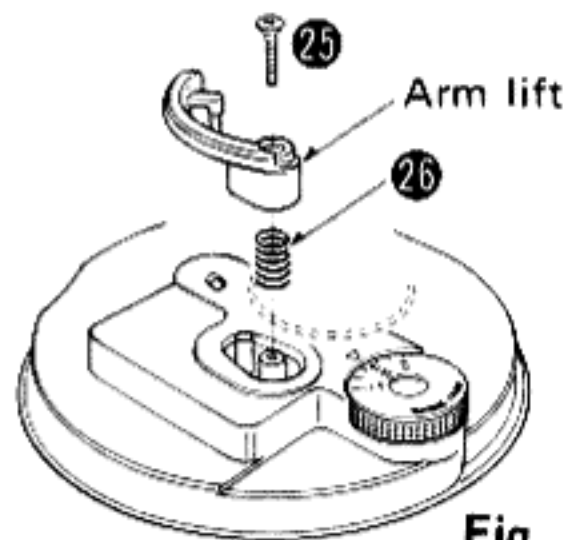

Fig. 9
1. Remove the arm lift setscrew and springs (Fig. 9: 25, 26) to detach the arm lift.